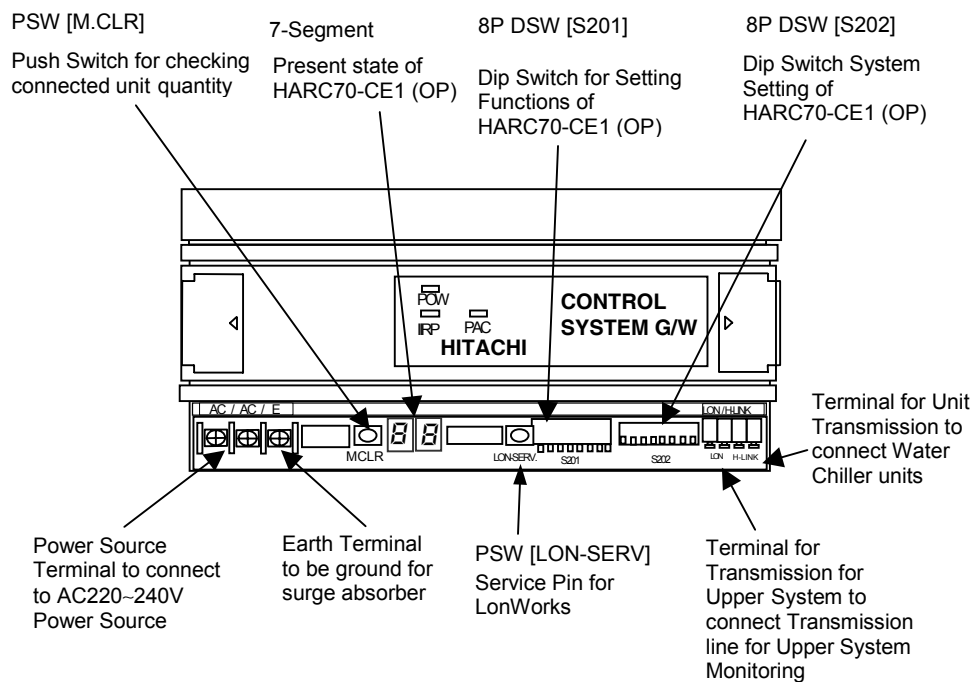

Fig. 1.4. Name of Terminals and Dip Switch Setting Portion
Names and functions are indicated Fig. 1.4. This indicates the figure without the cover of HARC70-CE1 (OP). Read "Section 4" for Connecting Method of each Terminal and Setting of Dip Switches.